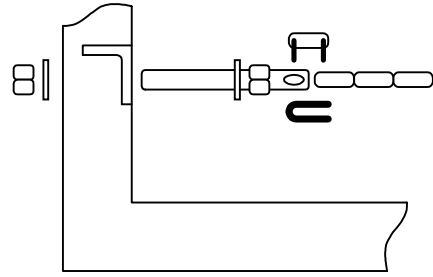

Figure 13
4. Attach the chain to the chain bolts using the master links supplied, and then attach the chain bolts to the chain brackets using the hardware supplied (figure 13). Make any adjustments to the chain length at this time.